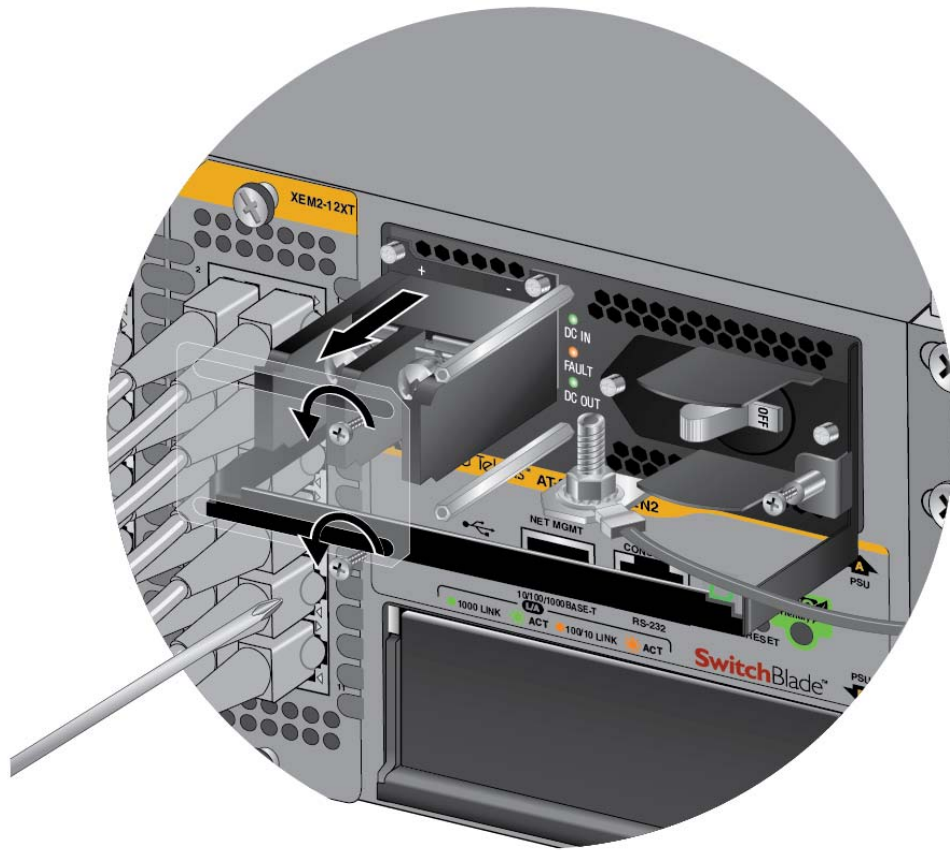

Figure 77. Removing the Plastic Cover
4. Using a #1 Phillips-head screwdriver, remove the two screws that secure the plastic cover over the positive and negative terminals and remove the plastic cover from the power supply, as shown in Figure 77 on page 112. You may need to lift the locking handle slightly to access the bottom screw.